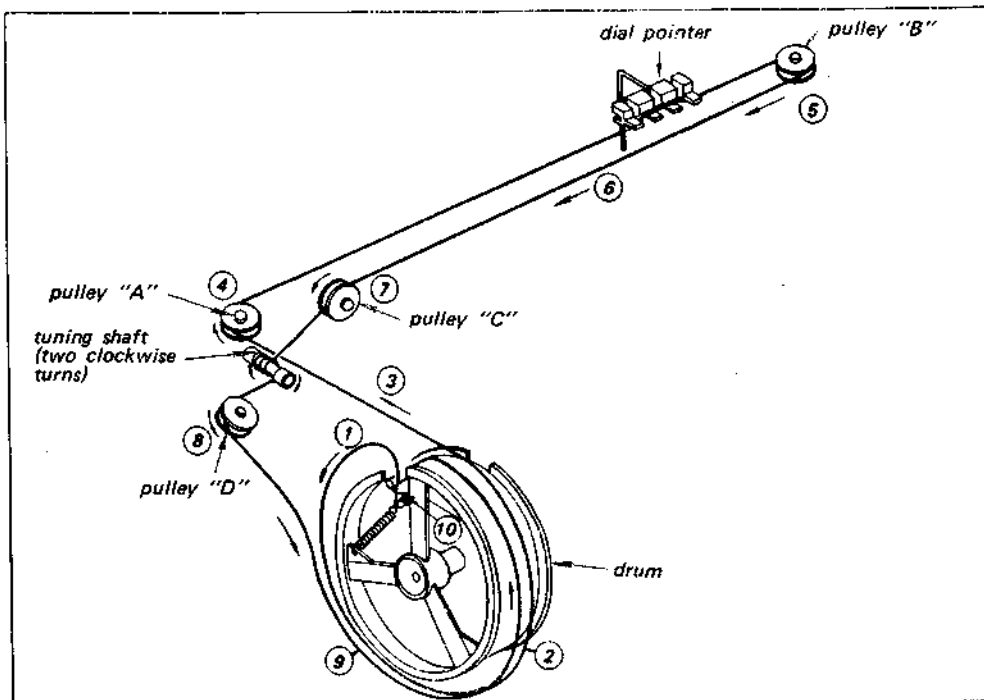
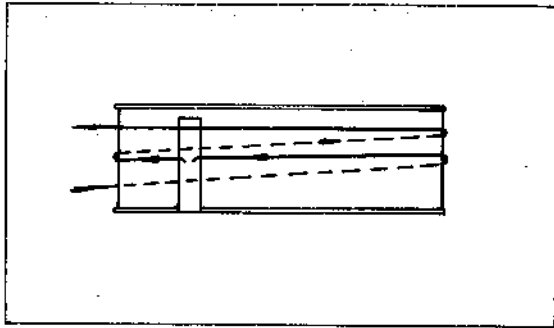

Fig. 2-6 Dial cord stringing
Fig. 2-8. Wrapping the dial cord
While referring to Fig. 2-6 proceed as follows:
the inner side groove. See Fig. 2-8.
4. Run the cord over pulley "D" and then wrap half turn around the drum from outer groove to inner groove as shown in Fig. 2-6 and Fig. 2-8.